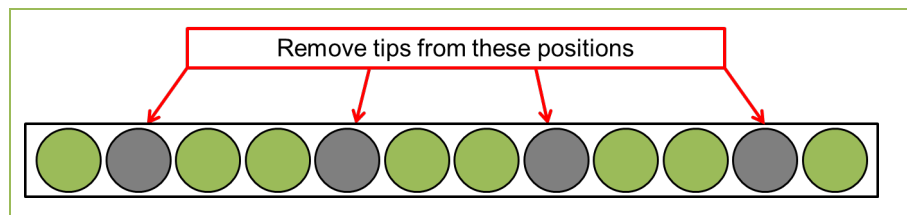

Figure 2: Tip Loading Strategy on a 12-channel Pipettor
4. Before adding medium, load a 12-channel pipettor with sterile tips and remove tips from the positions identified in Figure 2.
2. Load a 12-channel pipettor with sterile tips as identified in Figure 2 and remove 50% of the spent medium ($150 \mu\text{l}$) from each well of the 48-well MEA plate, 3 rows at a time.